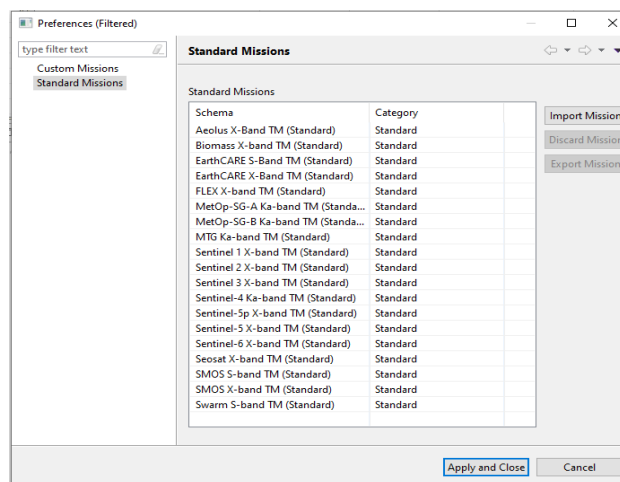

Figure 31: Mission Configuration
S2G enables the use of customized missions, loading their data at startup. This functionality is available by activating the menu item “Edit” → “Mission Configuration” (shown in Figure 31). The user is able to: export an existing mission (to have access to the defining files); import a new mission; and discard an existing mission. From the point of view of S2G there are two categories of mission definitions: the standard missions and the custom missions.
1. Launch the Mission Configuration dialog through menu “Edit” → “Mission Configuration” (Figure 31)